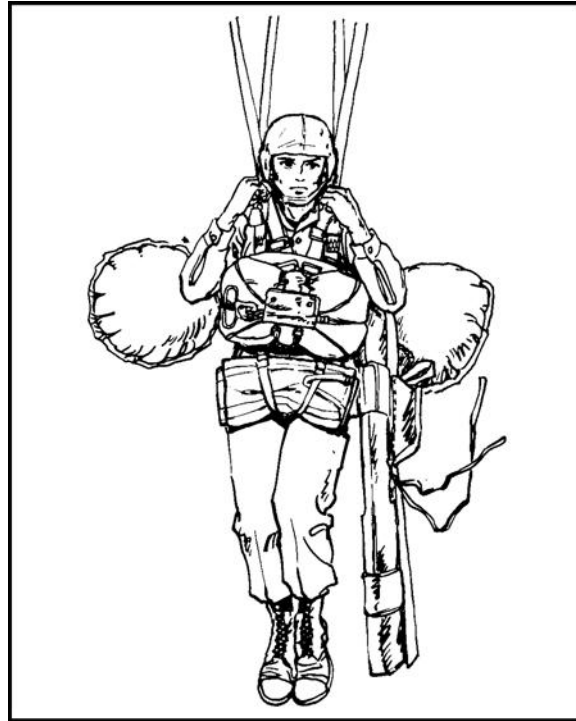

Figure 25-1. Landing with the B-7 life preserver.
a. **Deliberate Water Landing with the B-7 Life Preserver.** The B-7 is worn under the parachute harness with the inflatable portions under the jumper's armpits (Figure 25-1, page 25-10). At altitude, the jumper releases all equipment tie-downs and lowers equipment, but does not jettison it.
(1) During the descent, the parachutist inflates the life preserver by discharging the attached CO2 cartridges. If necessary, the life preserver can be inflated by blowing air into the inflation valve hose.
(2) After entering the water, the parachutist activates both canopy release assemblies. He pulls the cable release safety clip out and away from his body (exposing the cable loops) and activates the canopy release assembly using one of the two methods (hand to shoulder or two-hand assist) as his feet touch the water.
(3) Since the B-7 life preserver will provide 500 pounds of positive buoyancy, the parachutist does not remove the harness and equipment.
(4) The parachutist swims upstream or upwind away from the parachute to avoid becoming entangled, and signals "All okay" to the recovery boat.